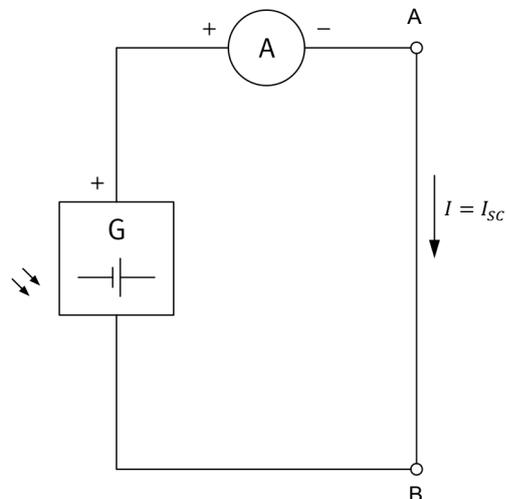
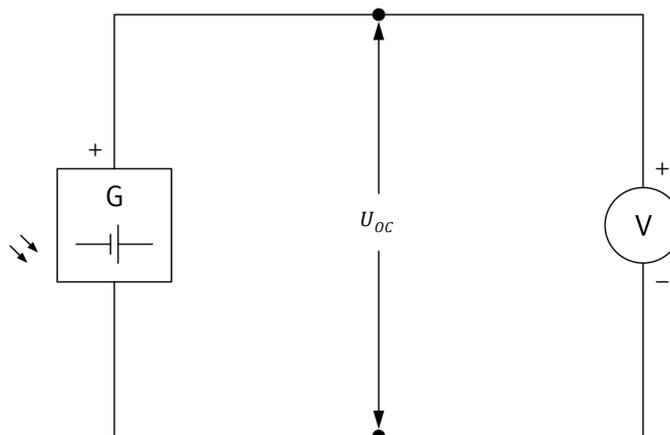

Figure 33. Circuit used to measure the short-circuit current I_{SC} of a PV module.
Figure 34. Circuit used to measure the open-circuit voltage U_{OC} of a PV module.
- Connect the “lower” PV module as shown in Figure 33.
11. Once the dimmer on the **Solar Panel Test Bench** is correctly adjusted for a short-circuit current I_{SC} of approximately 100 mA and the temperature has stabilized, modify your circuit as shown in Figure 34.
Connect the “upper” PV module in parallel with the “lower” PV module and measure the open-circuit voltage U_{OC} , short-circuit current I_{SC} , and PV panel temperature. Refer to Figure 33 and Figure 34 if necessary.